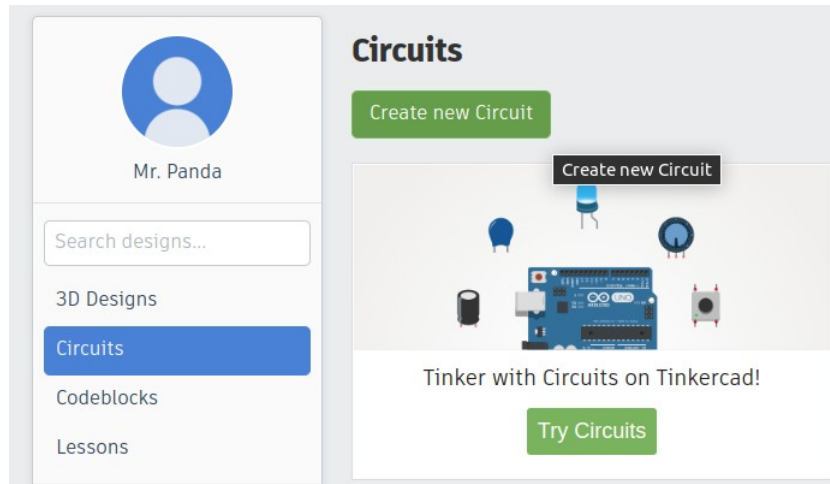

Figure 13.1: Create New Circuit
- Click the **Create new Circuit** button (Figure 13.1) to begin a fresh simulation workspace.